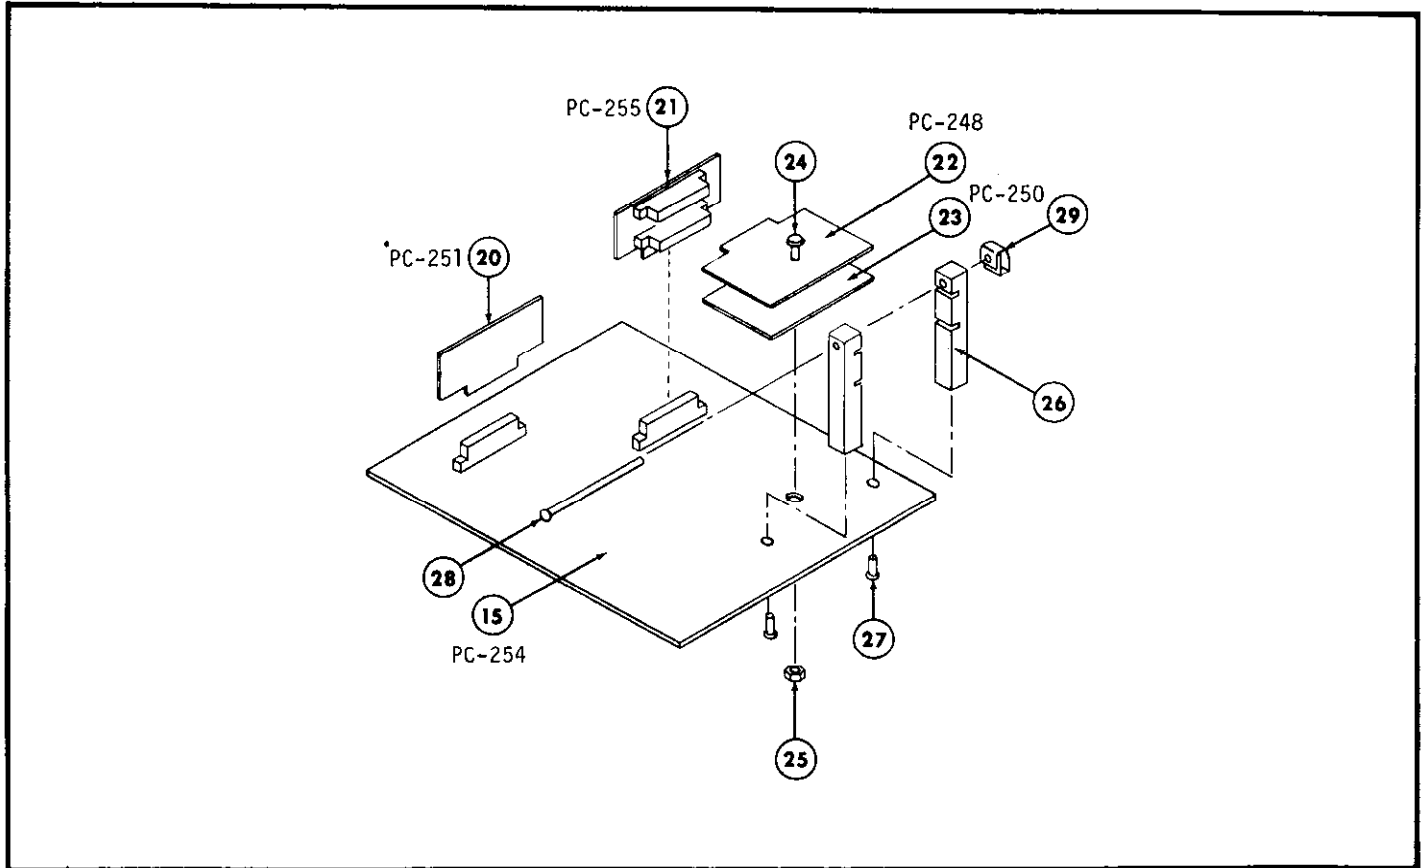
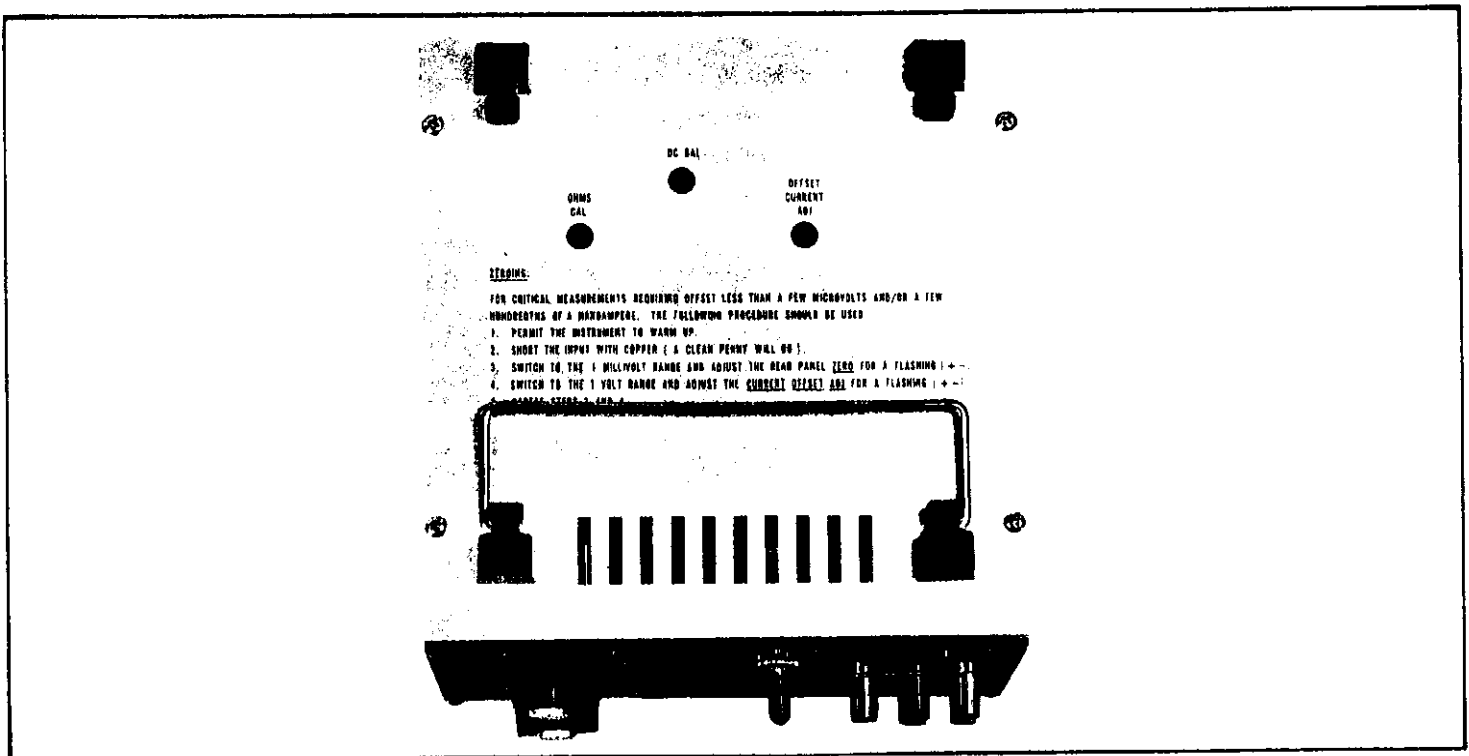

FIGURE 16. PC Board Locations.
FIGURE 18. Chassis, Bottom View.
c. Printed Circuit Board Installation. The location of all circuit boards is shown in Figure 16. To gain access to circuit boards PC-248, PC-250, and PC-255 the following procedure should be used.
1. Remove the two Phillips head screws from the underside of PC-254 as shown in Figure 16.
3. Remove the long slotted screw and fastener as shown in Figure 16.
b. Ohms Cal Adjust (R738). This control is a screw driver adjustment accessible from the bottom cover as shown in Figure 18.
c. DC Balance Adjust (R722). This control is an adjustment accessible from the bottom cover as shown in Figure 18. Caution! Use an insulated screw driver to avoid contacting the chassis.
2. Power Supply Checkout. All the power supply voltages can be measured at test points on printed circuit board PC-254 as shown in Figure 18.
1. Power Supply. The +15V supply should be adjusted for +15.00V dc  $\pm 0.050V$  using potentiometer R209 on PC-254 as shown in Figure 18. The -15V and +3.6V supplies cannot be adjusted since the +15V supply is used as a reference voltage.
2. Clock Frequency. Measure the clock frequency at the "CLOCK" test point on PC-254 as shown in Figure 16. The frequency should be adjusted for a nominal 10kHz,  $\pm 20$  Hz using potentiometer R605 on PC-254 as shown in Figure 18.
3. Zero Adjust. Temporarily disconnect front panel zero control R1215 by removing connector J1209 (located on PC-348). Place a shorting wire across the Input Terminals (red and black). Connect voltmeter (A) to the analog OUTPUT (J103). Adjust the rear-panel ZERO Control (R505) for zero on the 1 mV range.
5. DC Balance. With voltmeter (A) connected to the OUTPUT adjust the OFFSET CURRENT ADJ. Control (R733) for zero on the 1V range. The OUTPUT should be adjusted within  $\pm 1$  millivolt on the 1mV range and within  $\pm 0.1$  millivolt on the 1V range. Repeat the adjustments of R505 and R733 until the OUTPUT is within tolerance on both the 1mV and 1V ranges simultaneously. NOTE